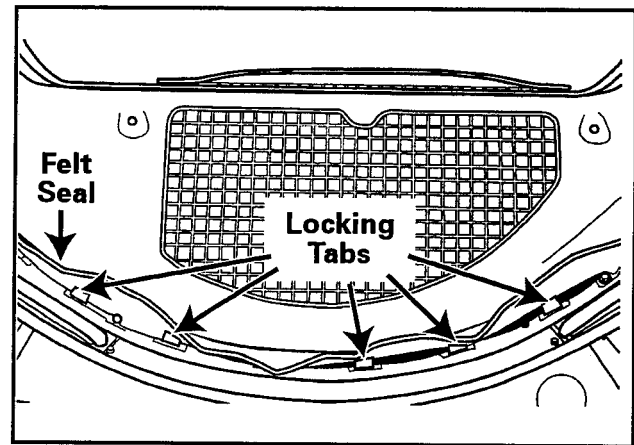

Figure 6-7
3. Remove the old felt seal by prying the locking tabs up with a flat blade screwdriver, (See Figure 6-7).